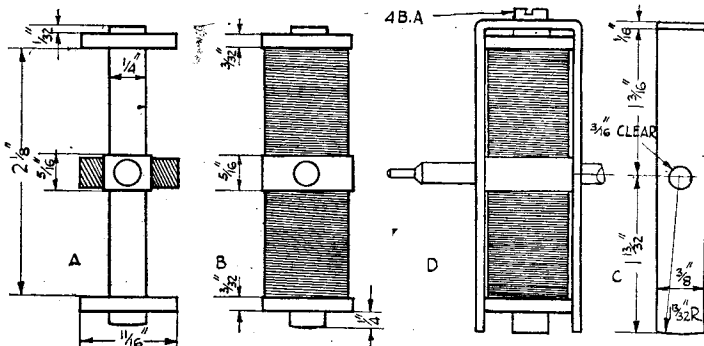

Fig. 16. Details of working coil and anti-reluctance plates
Turn the core to measurements as shown at A, Fig. 16, and radius the lower end from centre
(3) Again sheath the winding with stiff paper and *very carefully* wind on evenly the last layer. Go slow when doing this and the result will be very pleasing. Secure the last turn, which should be at bottom, with a couple of turns of fine thread.
(4) Carry the wire through notch in centre flange edge, and proceed to wind the lower section, interposing a thin split paper disc to protect the "lead down" wire, from the mains winding. Wind as evenly as possible leaving about the thickness of four layers unwound.
(5) Very carefully, with the smallest possible amount of solder, attach to the finishing end about 5 in. of fine flexible wire (about twice the thickness of that used for winding), and wind back about five turns, securing them with a few turns of thread; the latter being held neatly in place with shellac. The appearance should now look like that shown at B, Fig. 16.